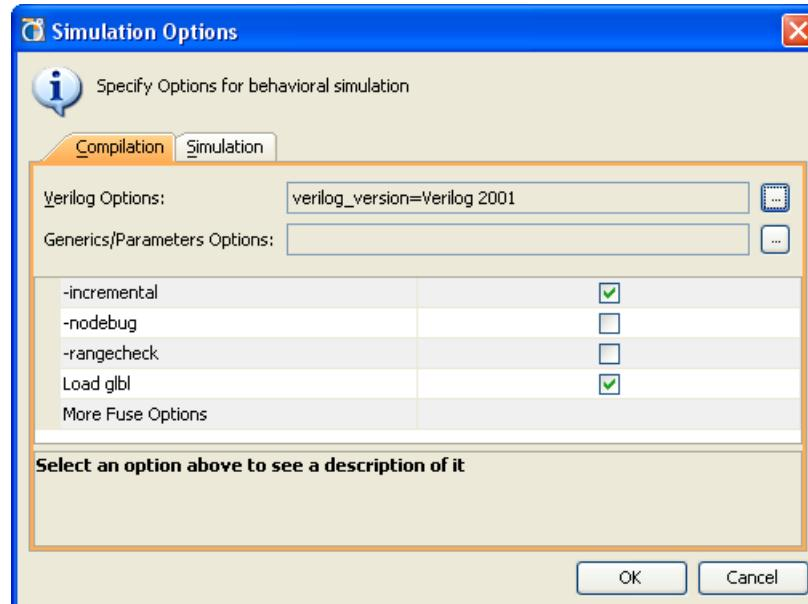
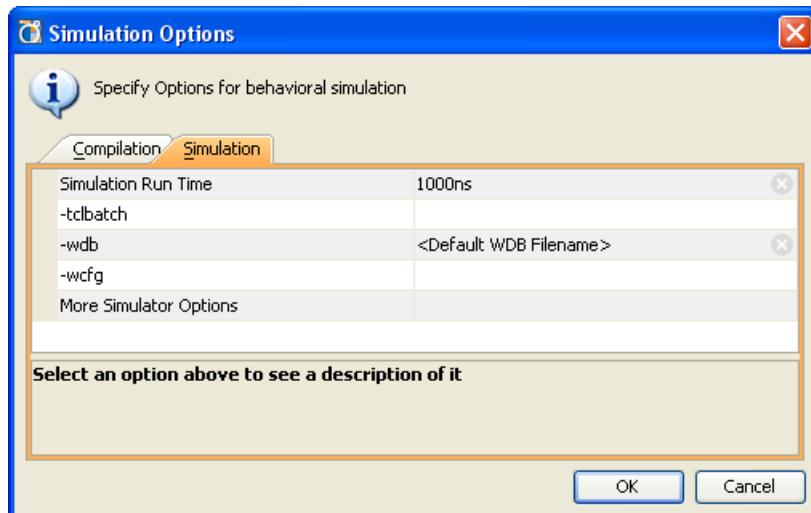

Figure 5-10: Simulation Options Dialog Box
Figure 5-11: Behavioral Simulation Language Options
- **Options** — Opens the Simulation Options dialog box as shown in Figure 5-10, page 202 and Figure 5-11, page 203.
The **Compilation Option** tab of the Simulation Options dialog box contains the options to control the execution of fuse and ISim, as shown in Figure 5-10, page 202.
Figure 5-11 shows the **Simulation** tab of the Simulation Options dialog box.